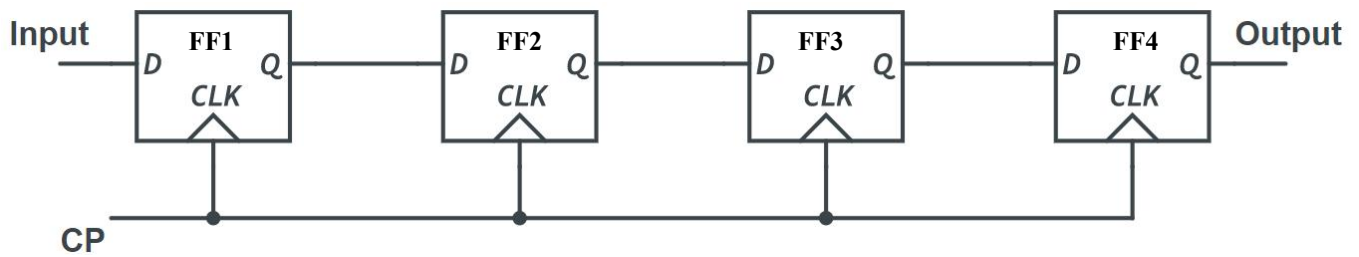

Figure 7.1: Logic diagram of 4 bit serial-in serial-out shift register
The data is loaded into and read from the shift register serially. Fig.7.1 shows the circuit of a 4-bit serial in-serial out (SISO) shifts right register using four D flip-flops. The Q outputs of one state (FF) are connected to the D input of the next state(FF). Thus, the inputs to second, third and fourth flip-flop are conditioned by their preceding flip-flops. The data in each flip-flop is shifted to the next flip-flop on the arrival of a positive edge of clock pulse. Since it is a 4 bit register, 4 clock pulses are required to shift the data through this register.